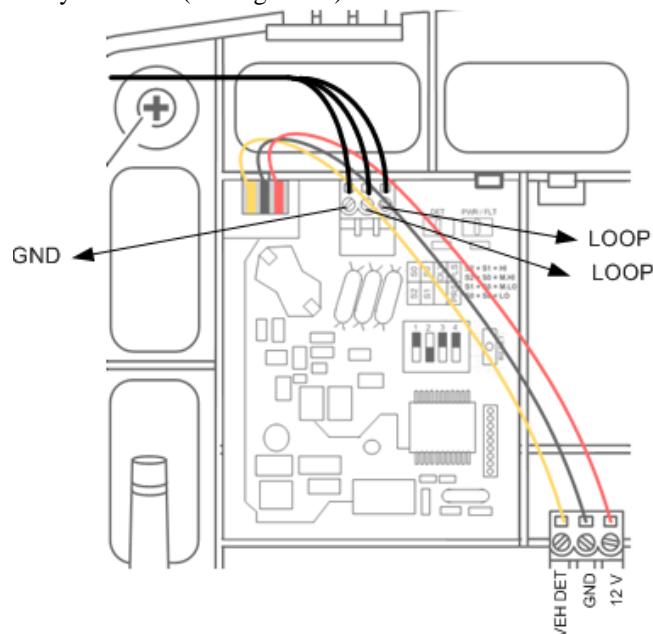

Figure 14
- Carefully install the three wires between the vehicle detector board and the base station board (see Figure 14). The left-to-right pin order is the same on both boards: the left pin on one corresponds to the left pin on the other.